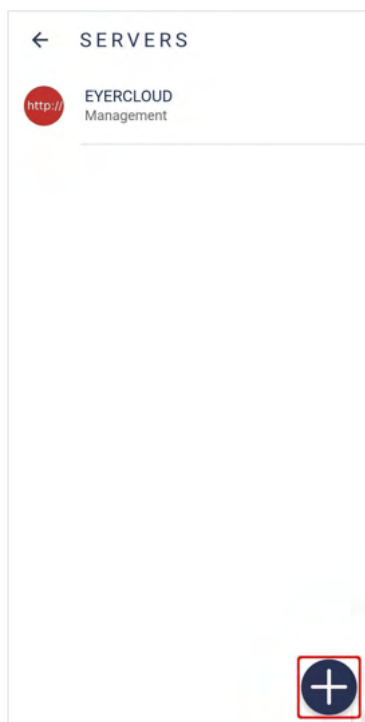
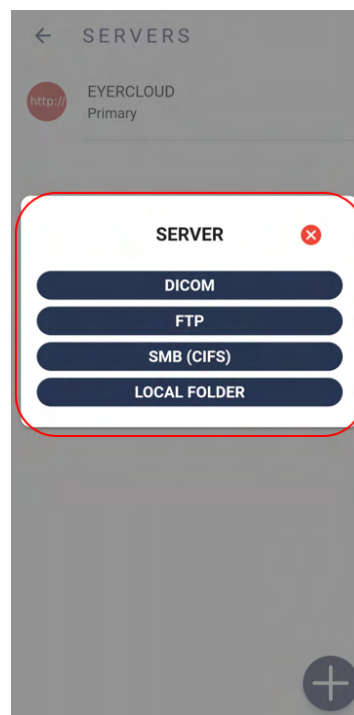

Figure 107: Servers list
Figure 108: Option to create servers
Option 4. “Servers”, enables accessing available servers, figure 107.
Select button , figure 107, to add a new server. Select the server type to synchronize, figure 108, and fulfill information as described in item 3.2.1.3.4.1 Common server setup.